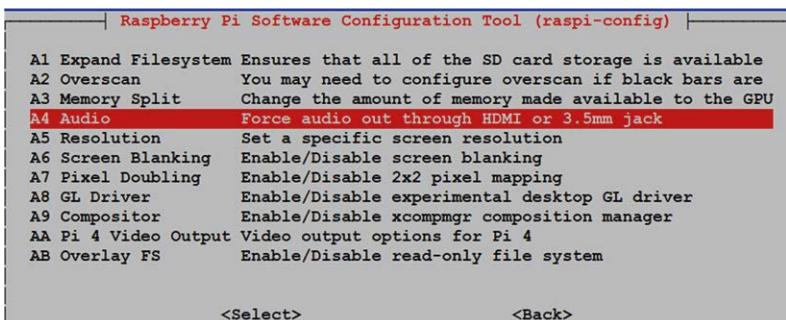

Figure 20.2: Select an audio output device.
- Select **Auto, or Force 3.5mm jack, or Force HDMI** (see Figure 20.2)